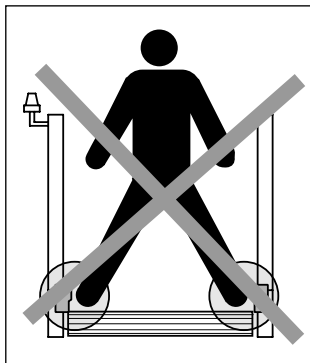

Fig. 1: Opposing sensors must not be activated simultaneously
2. Muting sensors must be arranged such that muting cannot be triggered unintentionally by any person (Fig. 1 and 2).